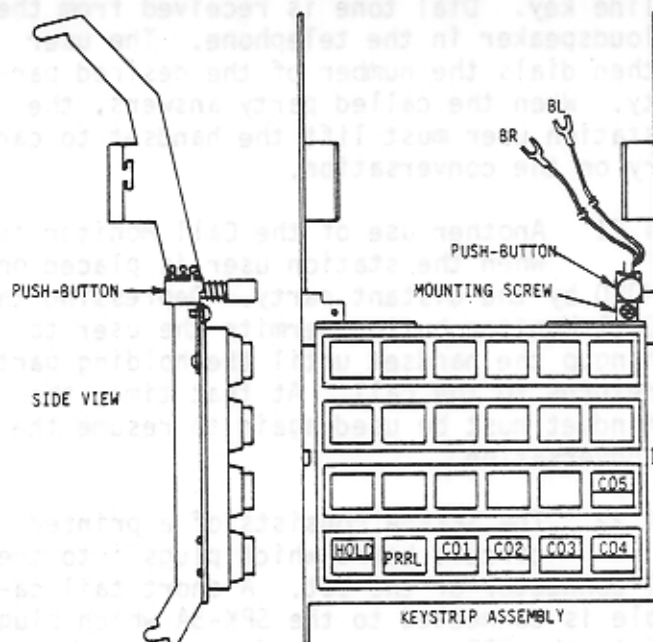

Figure 7 - FLASH Key Installation
- b) Referring to figure 7, mount the key on the upper right side of the key assembly as shown in the figure.